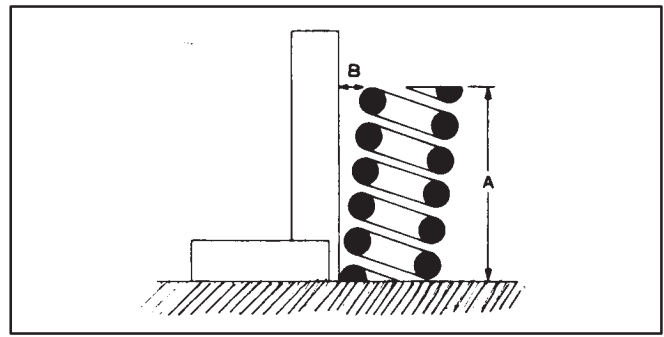

FIGURE 12-11. MEASURING VALVE SPRING HEIGHT AND SQUARENESS
Valve Springs: See Figure 12-11. Check spring free-height, squareness, end wear and open-valve spring tension. Check the valve spring retainers for wear also if the spring ends are worn. Check spring height (A) by placing the spring on a flat surface next to a square. Check squareness by rotating the spring against the square. The spring is not considered square if (B) exceeds 1.5 mm (0.06 inch). Check open-valve spring tension using an accurate valve spring tester. Replace a valve spring that is weak, broken, worn or not square.